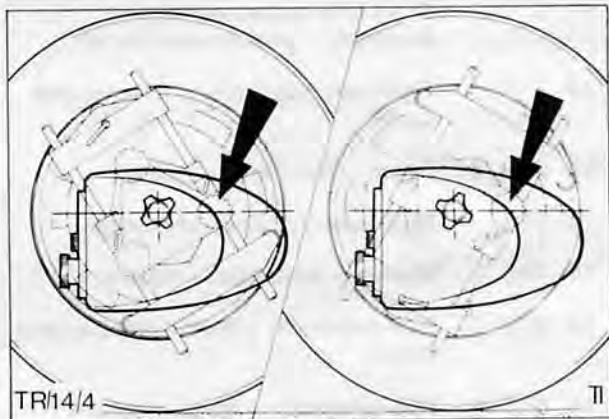

Fig. 4. A and B show two possible positions of adjuster
4. Jack up front wheel and adjust projector bracket to eliminate wheel run out. Jack should be positioned under axle as near to front wheel as possible. Run out is eliminated by rotating wheel and observing movement of projected image on screen. Position wheel at maximum run out position and adjust bracket by turning adjusting screw nearest to horizontal plane, Fig. 4.